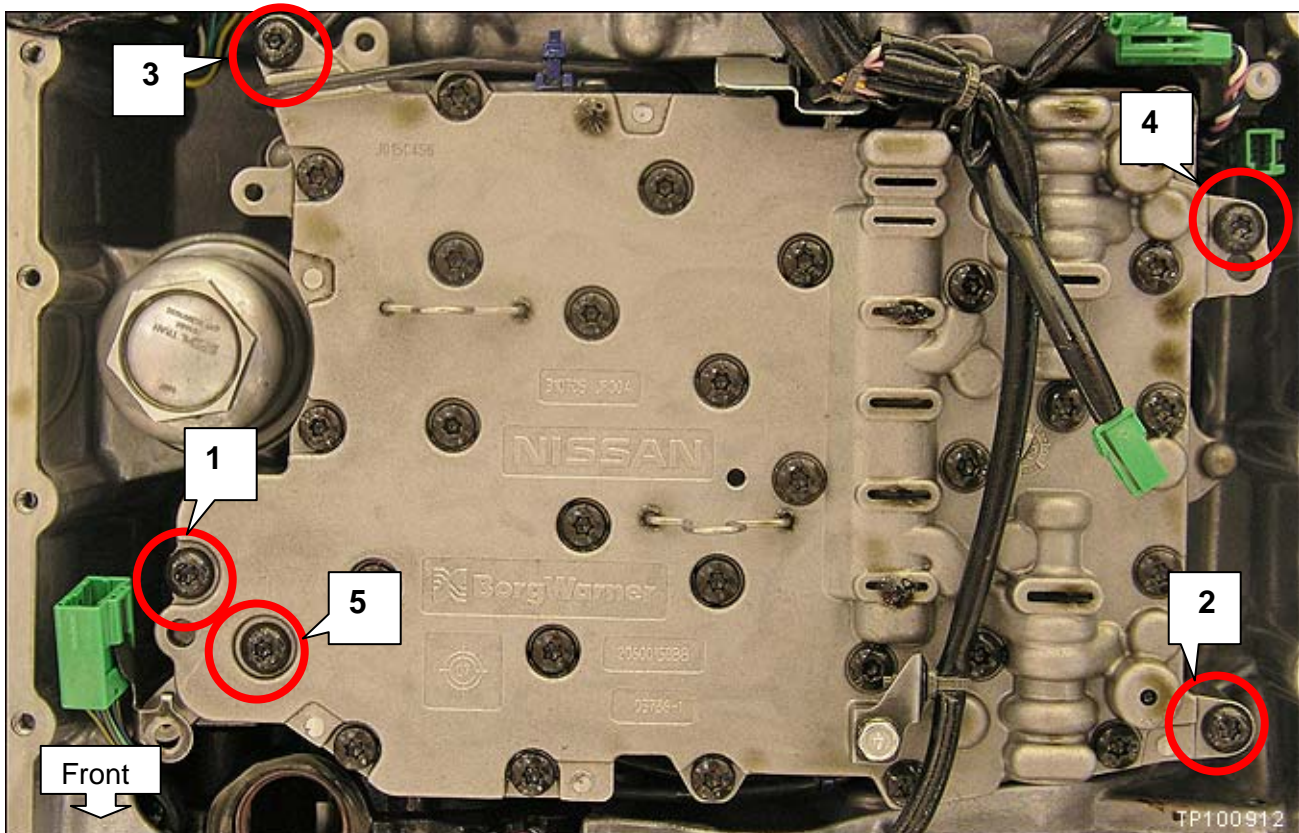

Figure 16
- Tighten the bolts in the order shown in Figure 16.